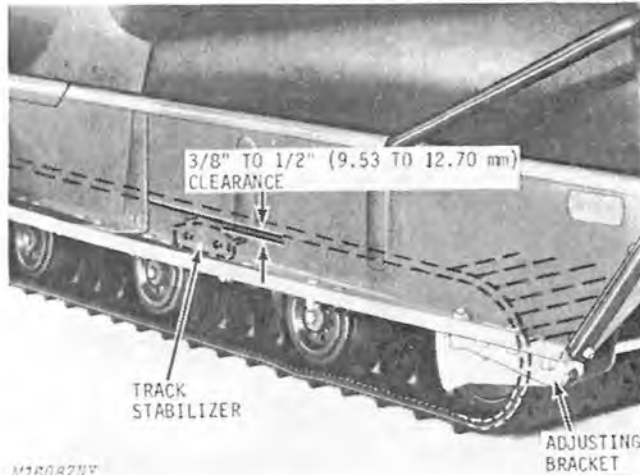
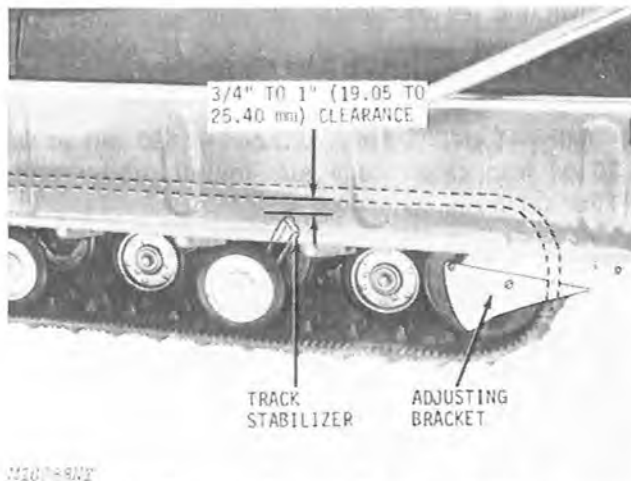

Fig. 30-Clearance Between Track and Stabilizer
Fig. 31-Clearance Between Track and Stabilizer
2. Check clearance between the track stabilizers and the track. Fig. 30 gives the correct clearance for all machines up to Serial No. 20,000. Fig. 31 gives the correct clearance for all bogie machines beginning with Serial No. 20,001.
3. If clearance is more than indicated in Figs. 30 and 31 track is too tight; if less, track is too loose.